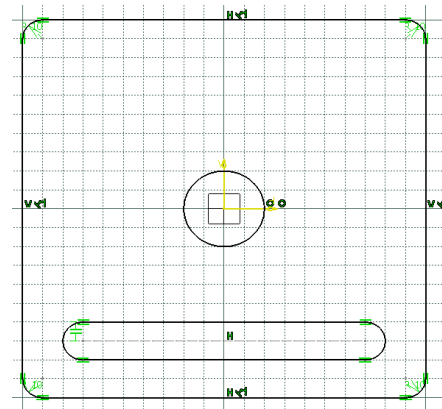

Figure 3-47 The sketch after drawing the elongated hole
6. Move the cursor vertically upward and specify a point on the elongated hole when the **Radius** edit box shows a value of 10 as the radius. Figure 3-47 shows the sketch after drawing the elongated hole.